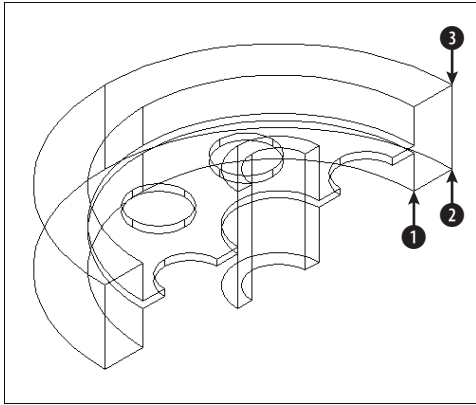

Figure 24-25: This 3D model was sliced and can now be mirrored.
1. If you have `ab24-04.dwg` open from the previous exercise, use it. Do a regen to remove the hidden view. If you don't have it open, open it from your AutoCAD Bible folder or from the `Results` folder of the *AutoCAD 2004 Bible* CD-ROM. Make sure OSNAP is on and set a running object snap for endpoint. If you don't have the Solids Editing toolbar open, right-click any toolbar and choose Solids Editing from the toolbar list. The drawing is shown in Figure 24-25.
Specify first point of mirror plane (3 points) or [Object/Last/Zaxis/View/XY/YZ/ZX/3points] <3points>: *Pick ① in Figure 24-25.*